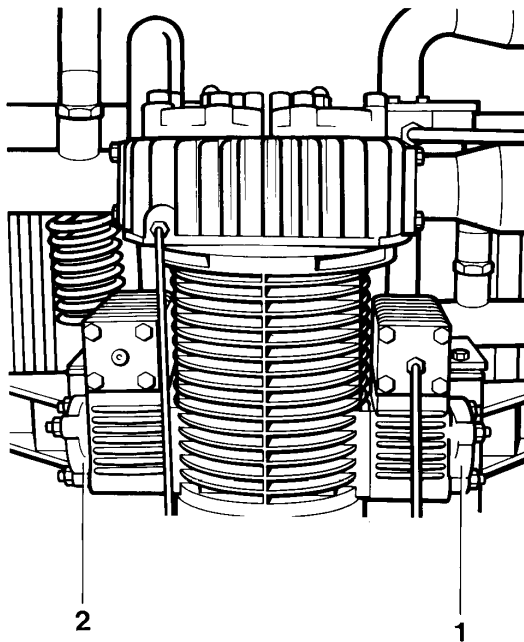

Fig. 62 3rd stage valve head
The 3rd stage valves are located directly on the side of the 2nd/3rd stage stepped cylinder. One inlet valve (1, Fig. 62) and one discharge valve (2) are provided. For removal and reinstallation of the valves refer to 4.13.2.